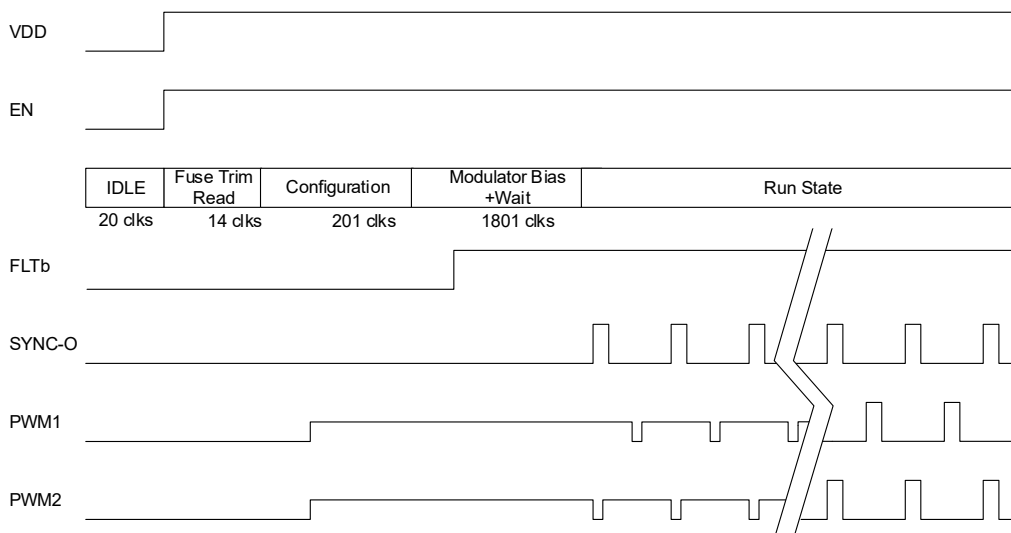
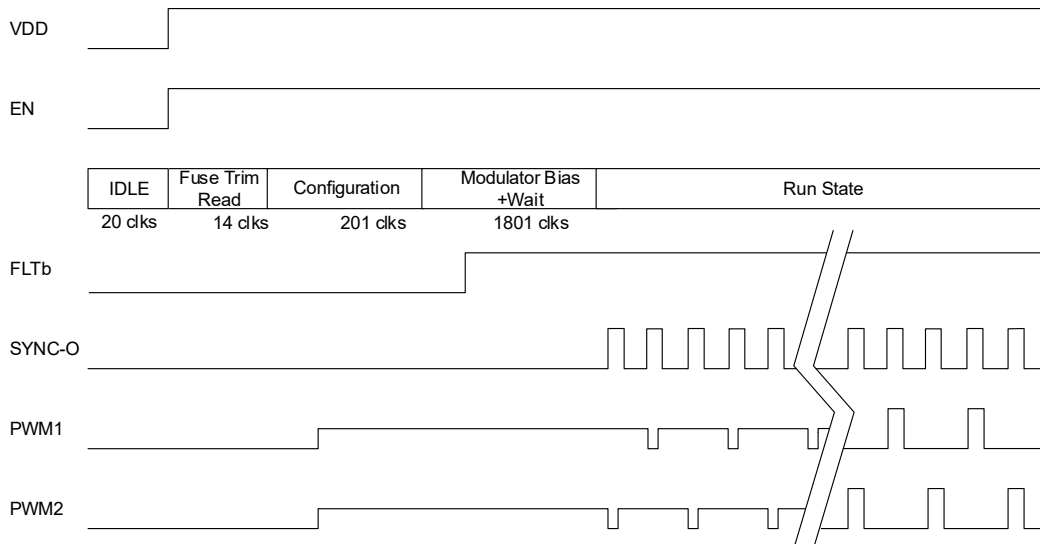

Figure 172. Start Up Timing Diagram ($R_{\text{SYNC-O}} = \text{OPEN}$)
Figure 173. Start Up Timing Diagram ($R_{\text{SYNC-O}} = 100\text{k}\Omega$)
When the ISL73849SLH first powers up, it goes through several states prior to boot refresh and soft-start. After VDD has crossed the rising UVLO threshold, the oscillator waits 128 clock cycles at 500kHz before allowing the digital core to enter its configuration state. The configuration state lasts 886 clock cycles at 500kHz. When the digital core completes its configuration, it signals the oscillator to switch to the frequency set by the FS pin or SYNC-I. After an additional 128 clock cycles at the new frequency, boot refresh pulses commence followed by soft start. Figure 172 and Figure 173 illustrate the start-up sequence.
During states A and C in Figure 172 and Figure 173, the oscillator blanks the clock signal to the digital core. This is done so that the oscillator has time to stabilize its frequency before entering the configuration state (B) or run state (D).